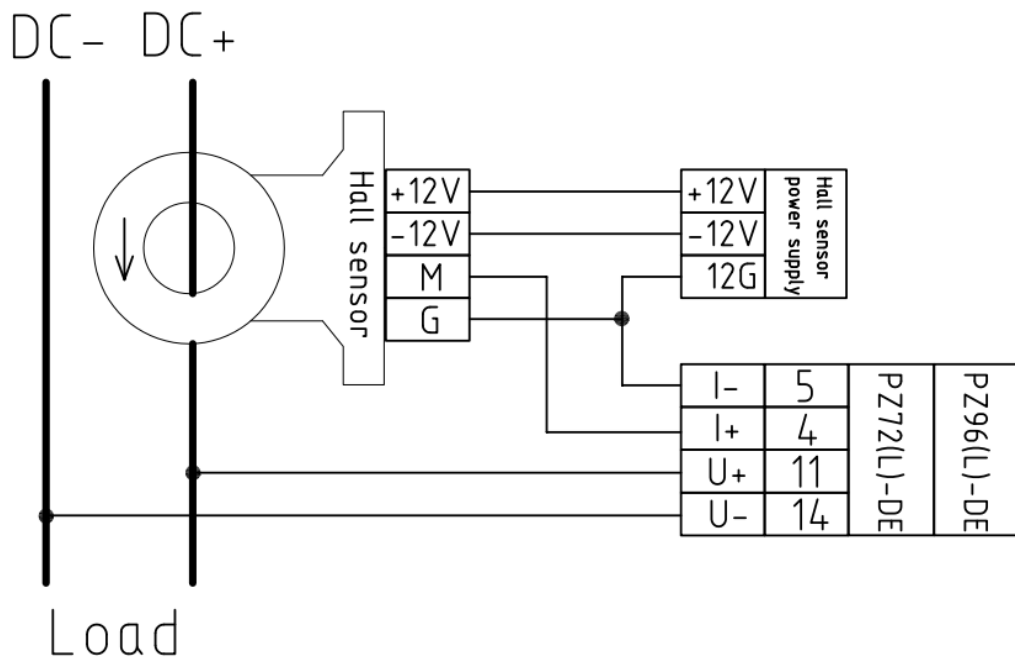

Fig 5 Typical wiring diagram of using Hall current sensor
- 2) Sampling current with Hall Current Sensor, connection between Hall current sensor(Powered separately) and instrument as shown in figure 5:
Figure 5 is typical wiring diagram using hall current sensor, figure is only for reference ,if not accordance with the actual wiring diagram of Hall current sensor, please refer to the wiring diagram shown in the instructions of Hall current transducers that are actually needed.